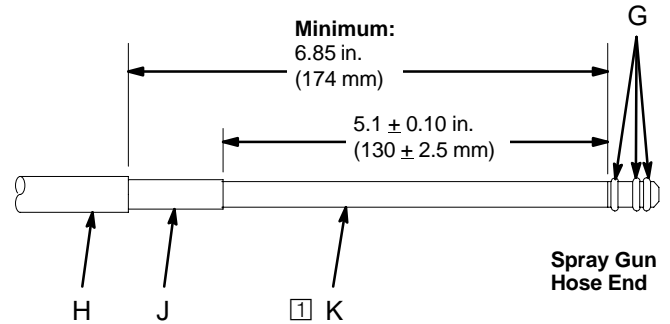

Fig. 12
1. For the fluid hose to seal properly, the hose must be stripped and assembled to the dimensions shown in Fig. 12. A new Graco waterborne fluid hose comes fully assembled to the proper dimensions.
4. Apply a light coat of dielectric grease (supplied with the gun) to the entire length of the exposed inner hose layer (K). See Fig. 12.
- 1 Apply a light coat of dielectric grease to the o-rings (G) and the entire length of the inner hose layer (K)